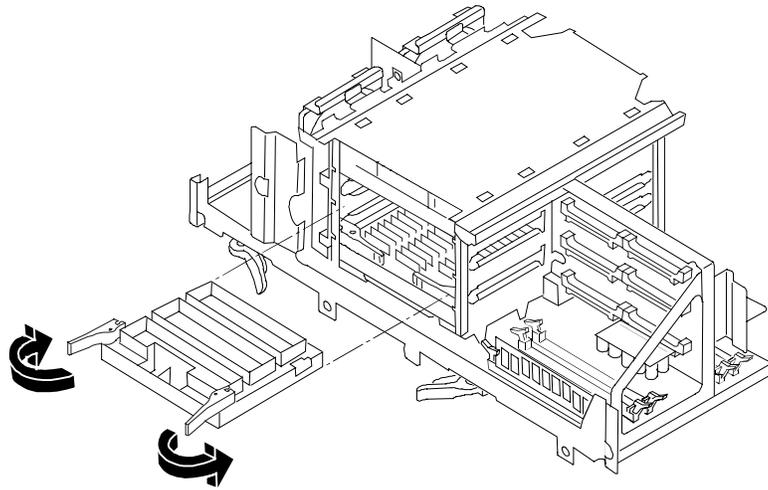

Figure 7-3. Open the Latches
10. Open the latches and remove the slot terminator/baffle from the next available slot as shown in Figure 7-3.